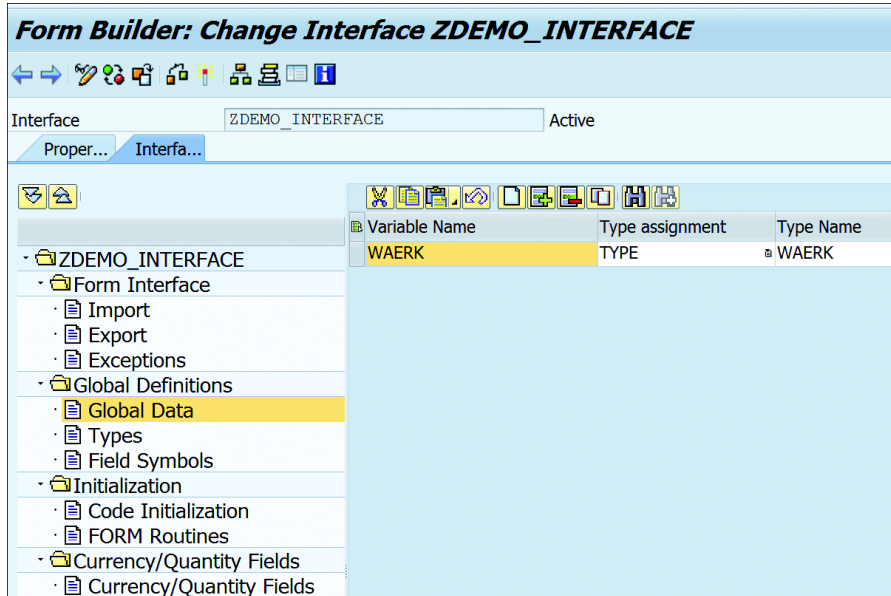

Figure 18.70 Global Definitions
- Under GLOBAL DEFINITIONS, define the global data objects for the form, local type definitions, and field symbols (see Figure 18.70).
- To maintain the reference fields, first define a variable of type `CUKY` in `GLOBAL DATA` (see Figure 18.70) and then use it as a reference field in the `CURRENCY/QUANTITY` fields section, as shown in Figure 18.73. For this example, we defined a `WAERK` global variable of type `WAERK`.